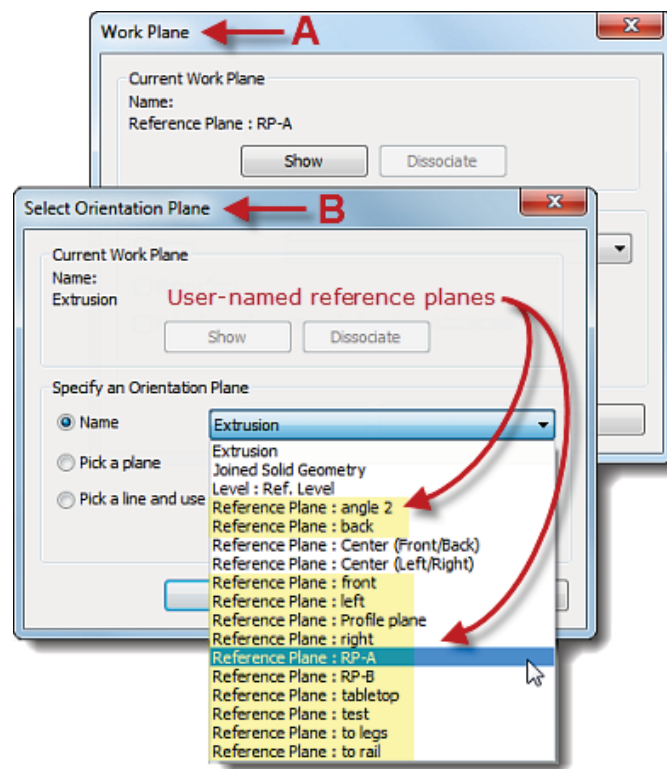
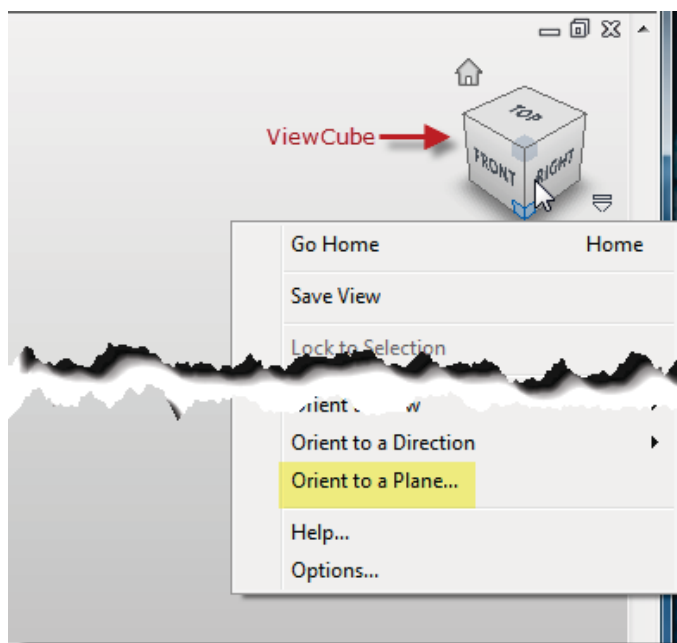

Figure 14 - Work Plane and Select Orientation Plane dialog boxes
Figure 15 - ViewCube
- Reference Planes: These are the green dashed lines which you use as guidelines or construction lines for sketching. Their lengths are infinite and have no start or end points. What you're drawing is a symbolic representation of that infinite plane. Reference Planes are also used to drive geometry when you add dimensions between them and assign parameters. When you name a reference plane, it automatically becomes a work plane and gets added as a choice from the dialog boxes shown in Figure 14. These two dialog boxes have the same window content. The differences are their names (A & B, Figure 14), where they are accessed from and the views you get when you access them. Family templates come with preset reference planes.
The Work Plane dialog box (A, Figure 14) is accessed from the Set tool (Home tab>Work Plane panel). If you go to a view from this menu, your work plane will change but not the current view you're on. And if you select a view perpendicular to your current view, the Go To View dialog box pops out where you are prompted to select a view from a list. The Select Orientation Plane dialog box
(B, Figure 14) is accessed by right-clicking the ViewCube (Figure 15) and sliding down to 'Orient to a Plane'. Going to a named view from here or choosing 'Pick a Plane' will take you directly to a view parallel to the work plane you want to work on.